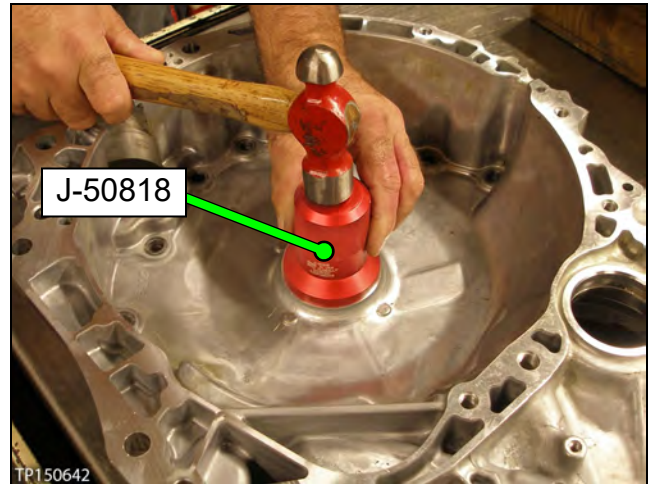

Figure 11
1. Install a new torque converter seal with Seal Installer J-50818 (Figure 11).